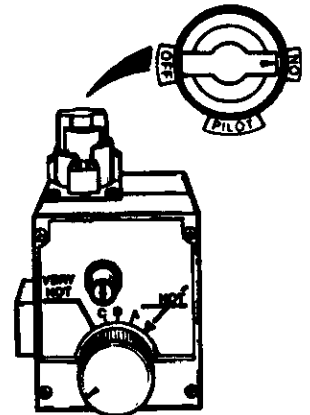

Figure 7
11. At arms length away, turn gas control knob counter-clockwise (↺) to the full "ON" position. **WARNING: Do not use gas control knob to regulate gas flow.** (Figure 7, page 19)